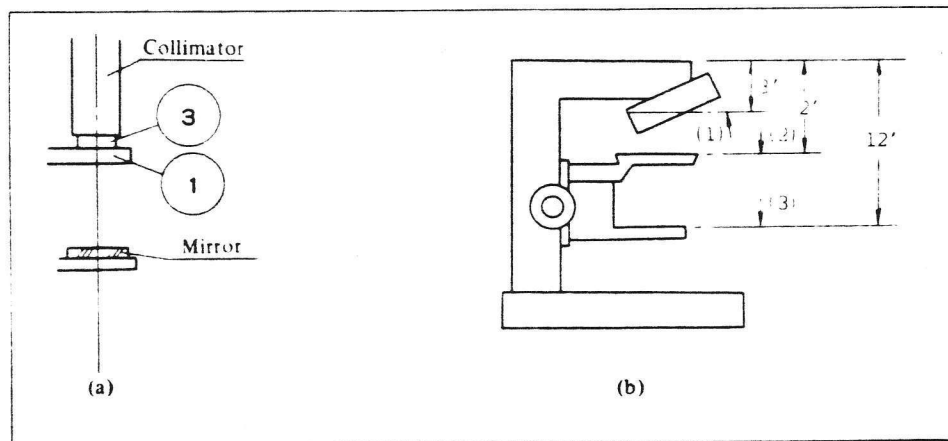

Fig. 44
- 1) Bringing the tool collimator onto the top surface of tube receptacle (3), check the parallelism using a mirror placed on the surfaces (1), (2) and (3) one after another, as shown in Fig. 44.
- 2) The parallelism should be within the range as indicated in Fig. 44(b).